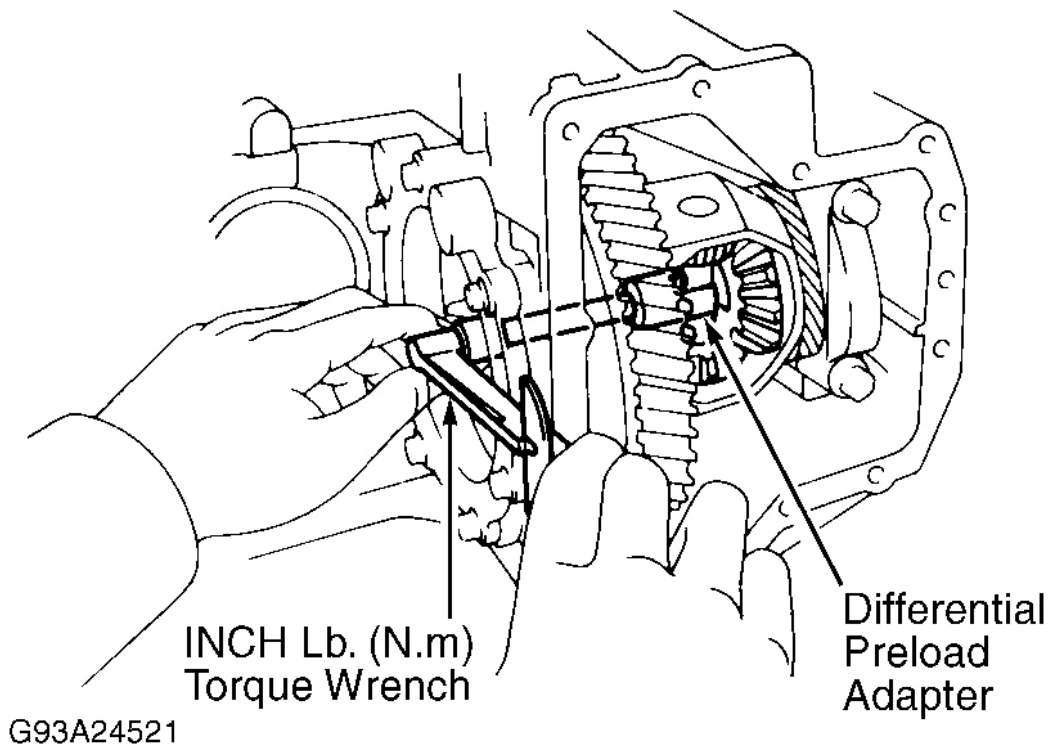
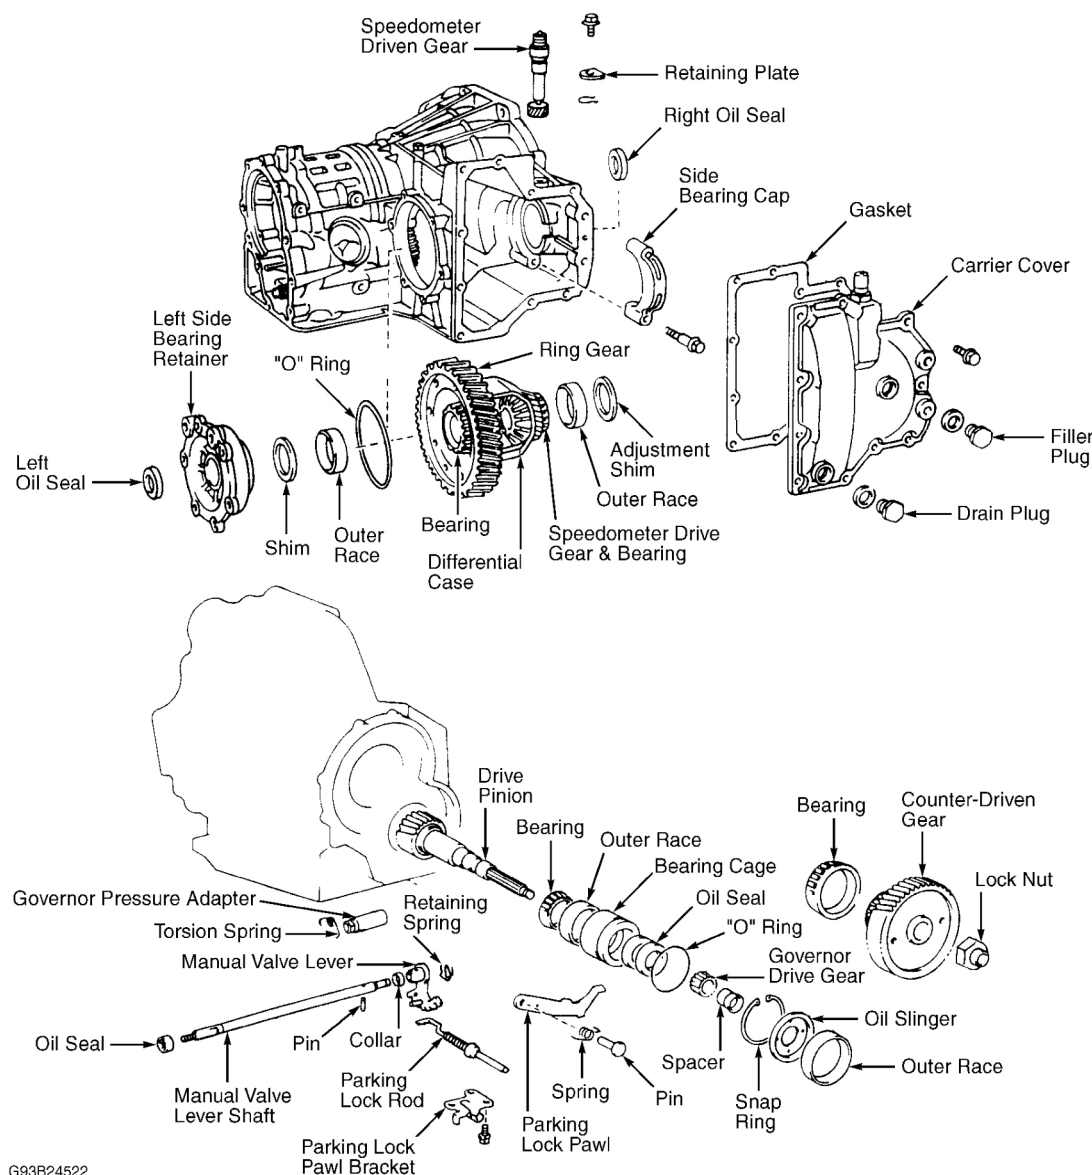

Fig. 39: Measuring Differential Bearing Preload
Fig. 40: A-131L & A-132L Transaxle Differential Assembly
7. Using Differential Preload Adapter (09564-32011) and an INCH lb. torque wrench, measure differential bearing preload with differential drive pinion removed. See **Fig. 39** . Preload must be within specifications. See **DIFFERENTIAL PRELOAD SPECIFICATIONS** table. If pre-load is not within specifications, remove differential from transaxle case and replace adjustment shim at right side bearing with appropriate shim.
11. If total preload is not within specification, disassemble differential and readjust. If total preload is correct, stake counter-driven gear lock nut. Install drive pinion cap. Coat carrier cover bolt threads with sealant. Install carrier cover and gasket. Install bolts and tighten to 18 ft. lbs. (25 N.m). To complete reassembly, reverse disassembly procedure. Tighten all bolts to specification. See **Fig. 40**.
and governor drive gear. Remove snap ring from transaxle case. Using brass drift and hammer, drive pinion and bearing cage from bore. Press governor drive gear from drive pinion shaft. Remove bearing cage from drive pinion. Remove "O" ring from bearing cage. See **Fig. 40** .
1. Install governor pressure adapter into case. Align adapter and transaxle case hole and install torsion spring. Ensure adapter does not slide and spring does not fall out when pulled. Install manual valve lever shaft oil seal to transaxle case. Install NEW collar to manual valve lever. See **Fig. 40**.
19. Apply compressed air to oil passage and check piston rod movement. See **Fig. 39** . Coat accumulator piston "O" rings with ATF. Install "O" rings on accumulator pistons. Check accumulator spring free length. See appropriate table under **ACCUMULATOR SPRING SPECIFICATIONS** . Replace as necessary. Install pistons and springs in appropriate locations. See **Fig. 40** . Install accumulator cover and gasket. Tighten bolts to 89 INCH lbs. (10 N.m).